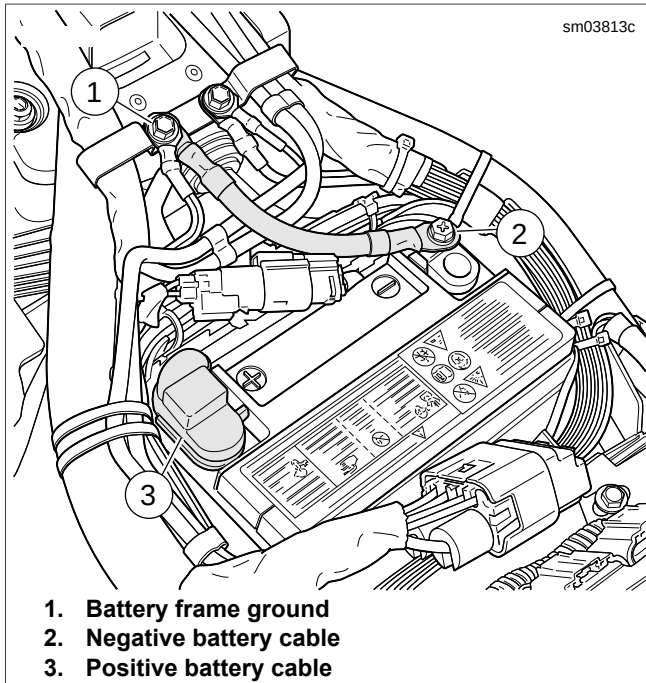

Figure 7-25. Battery Connections
6. See Figure 7-25. Install battery. Tighten positive battery terminal fastener to 60-72 in-lbs (6.8-8.1 Nm).
7. Install negative battery cable (2) at battery frame ground (1) before any accessory ground wires.
8. Install negative battery cable (2) at battery. Tighten negative battery terminal fastener to 60-72 in-lbs (6.8-8.1 Nm).